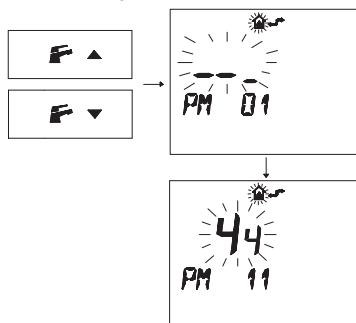

Fig. 8.20
- Press buttons **F**▲ or **F**▲ to display the "PM11" program of the pump post-circulation (Fig. 8.20).